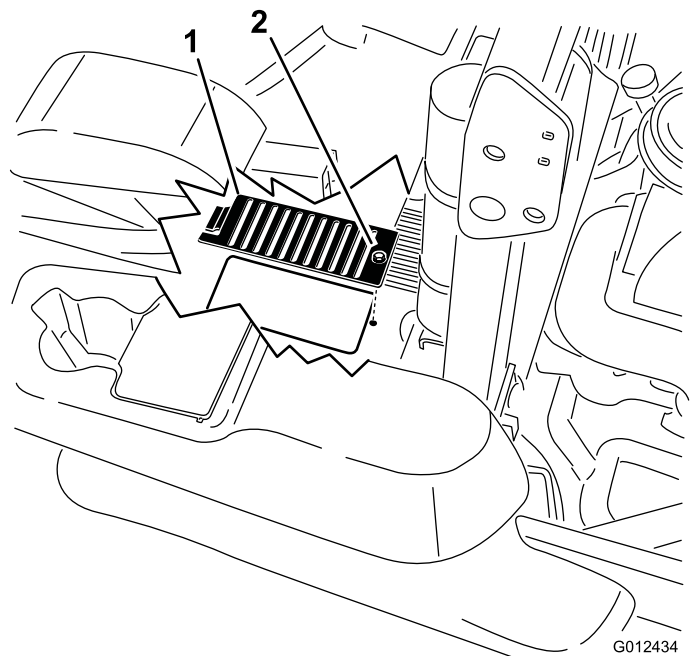

Figure 77
6. Over each dipstick, remove the cover and the bolt attached to the cover. Clean around each dipstick and hydraulic unit (Figure 77).